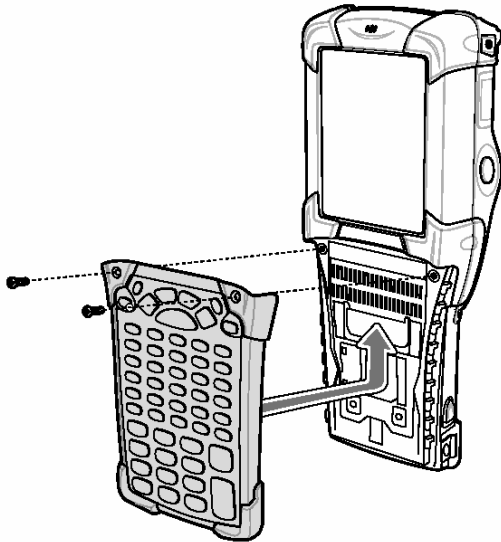

Fig. 4: Changing the keypad
7. Snap on the keypad in the direction of the arrow (see fig. 4) and push it upwards until the boreholes for the screws are over the threaded sleeves.